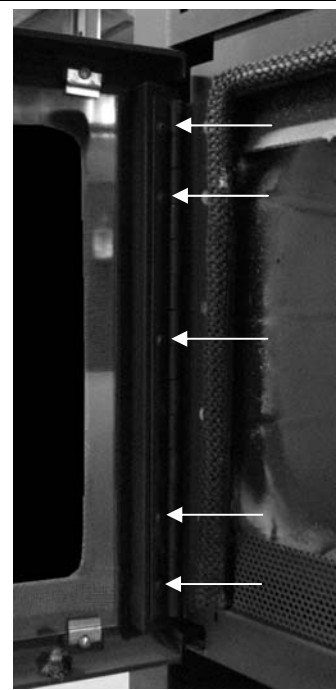

Figure 2 Hinge Adjustment on the Door
1. To tighten the left side of the door, slightly loosen the screws holding the hinge to the door (see Figure 2).